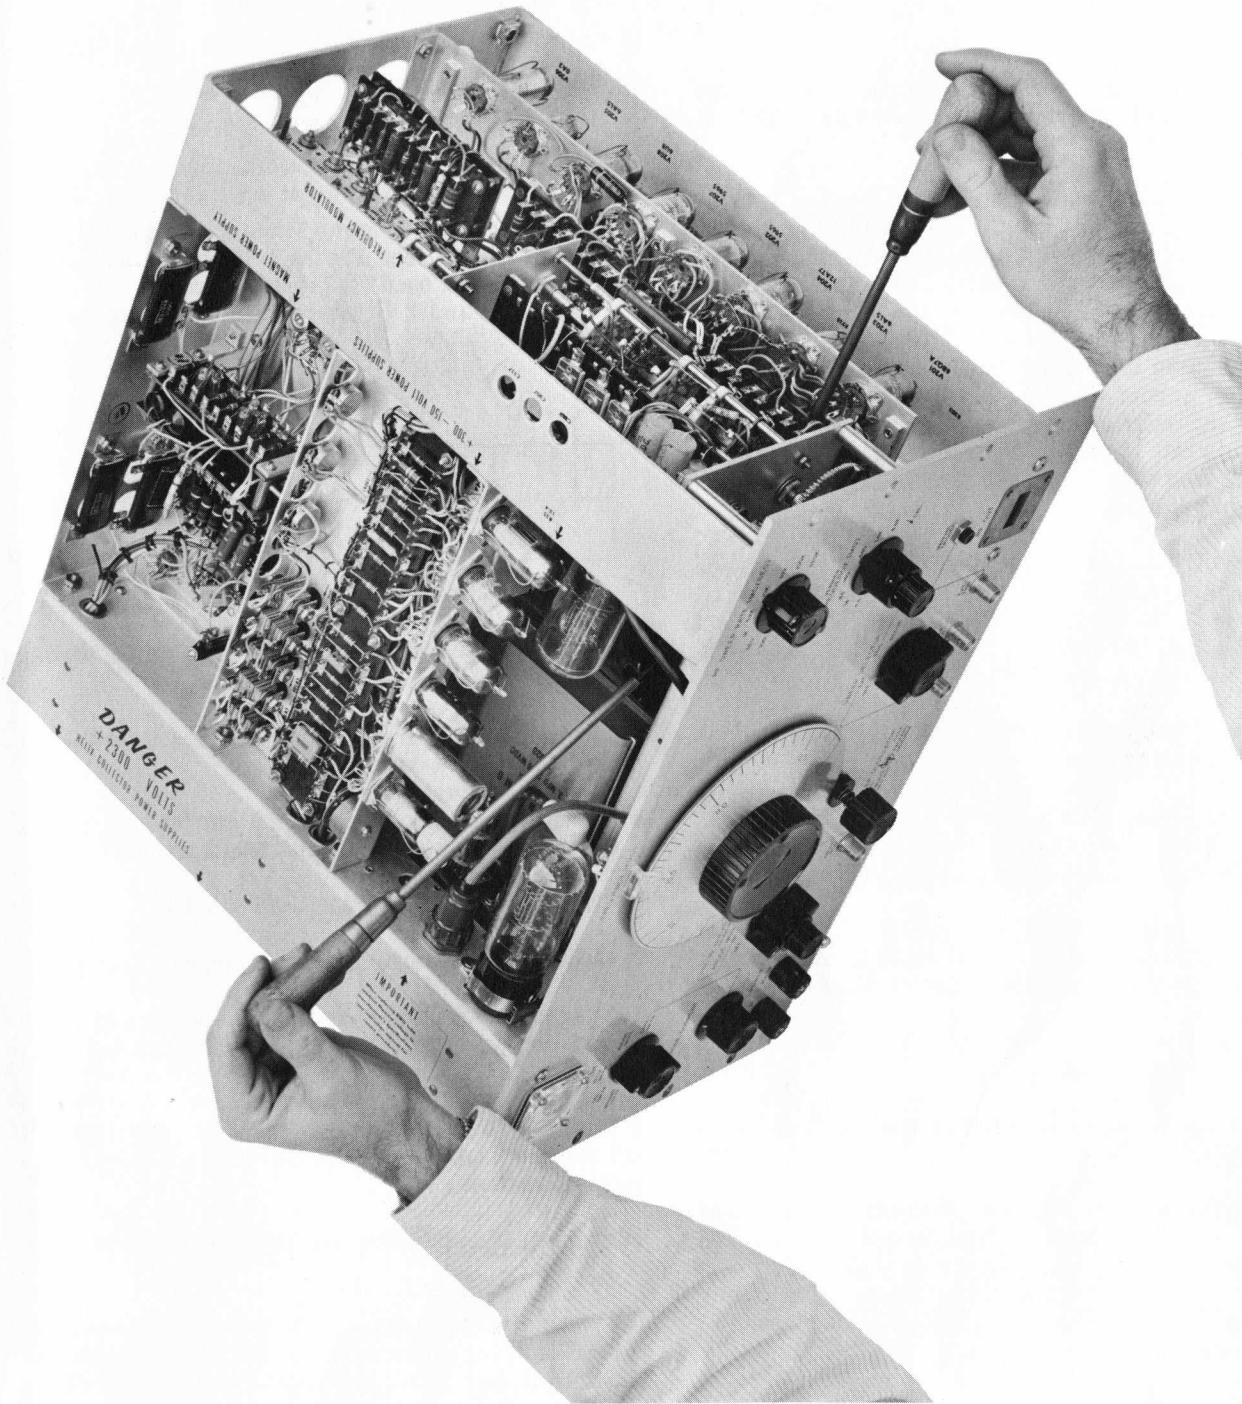

Figure 4-10. Positioning the BWO Tube at the Front of the Magnet
5) Repeat the process with the front two screws. It is not possible to exactly center the capsule by eye with the front screws. However, it is necessary to be as close as possible before a final electrical adjustment is attempted (see Figure 4-10).